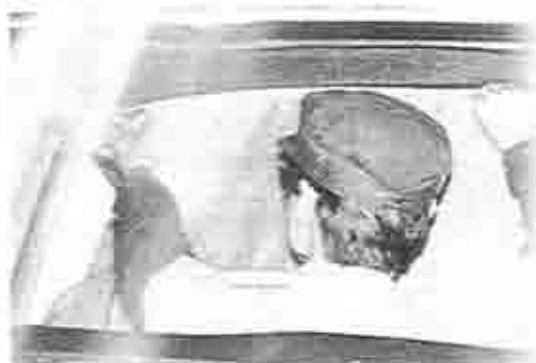

Fig. 14-28 Installing of listing wire
3. Insert both ends of each of the listing wires to their proper positions in successive order beginning from the rear as shown in Fig. 14-28. When doing so, be careful that the wires do not swing down.